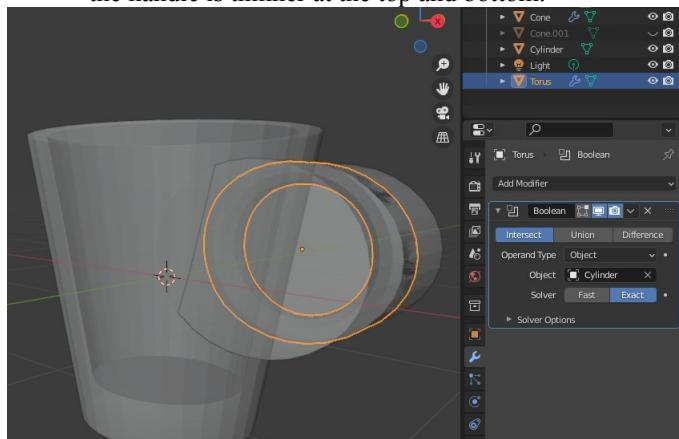

Figure 2-2 Handle made from a torus intersecting a squashed cylinder
6. To make the handle more elegant, carve some of the ceramic material from the outside of the torus using a cylinder: **Add** ▶ **Mesh** ▶ **Cylinder**, rotate it 90 degrees about the X axis, scale it down, and move it so it contains most of the torus as shown in Figure 2-2. Scale it slightly more in the Z direction so the handle is thinner at the top and bottom.